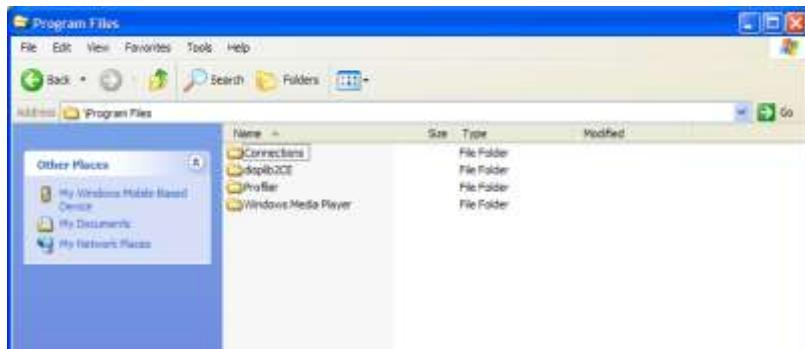

Figure 32: Profiler Program folder.
- The user should now select the **Program Files** folder. This will allow access to the Profiler Program folder (Figure 32).